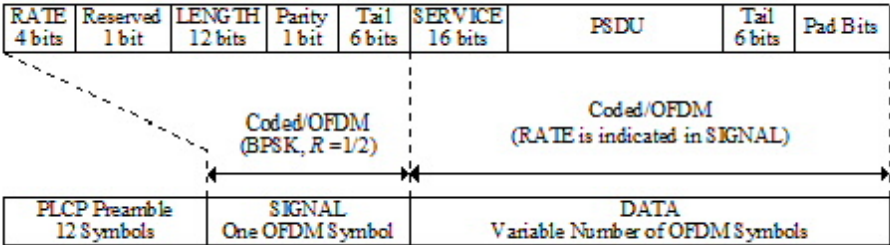

Fig.1 PPDU frame format
2. Fig.1 shows the format for the PPDU including the OFDM PLCP preamble, OFDM PLCP header, PSDU, tail bits, and pad bits. The PLCP header contains the following fields: LENGTH, RATE, a reserved bit, an even parity bit, and the SERVICE field. In terms of modulation, the LENGTH, RATE, reserved bit, and parity bit (with 6 “zero” tail bits appended) constitute a separate single OFDM symbol, denoted SIGNAL, which is transmitted with the most robust combination of BPSK modulation and a coding rate of  $R=1/2$ . The SERVICE field of the PLCP header and the PSDU (with 6 “zero” tail bits and pad bits appended), denoted as DATA, are transmitted at the data rate described in the RATE field and may constitute multiple OFDM symbols. The tail bits in the SIGNAL symbol enable decoding of the RATE and LENGTH fields immediately after the reception of the tail bits. The RATE and LENGTH are required for decoding the DATA part of the packet. The DATA field is described in the following sections